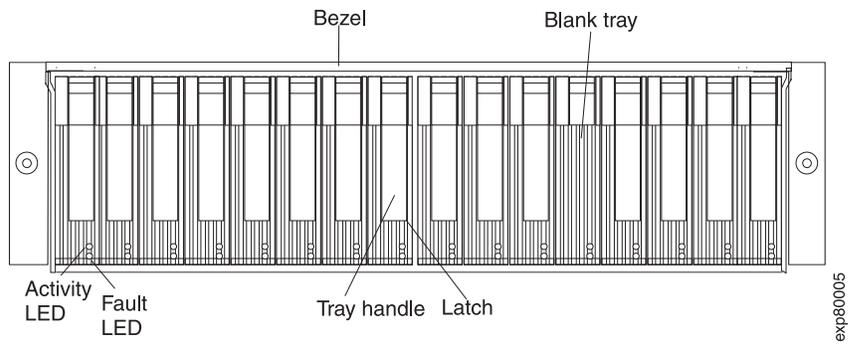

Figure 102. Hot-swap E-DDM LEDs
2. Check for Fault LEDs shown in Figure 102 on page 146. If any amber LEDs are lit, see “Solving problems” on page 175.